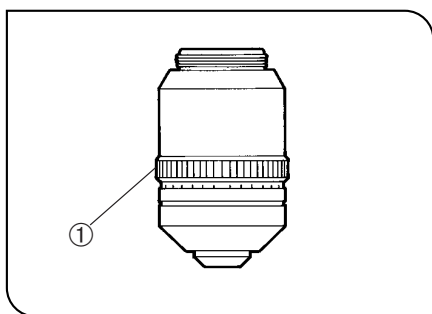

Fig. 29
- If the cover glass thickness is known, set the correction collar ① to that value. (Fig. 29)
- If the cover glass thickness is unknown, adjust the correction collar ① and fine adjustment knob alternately until the positioning with the highest resolution is obtained.